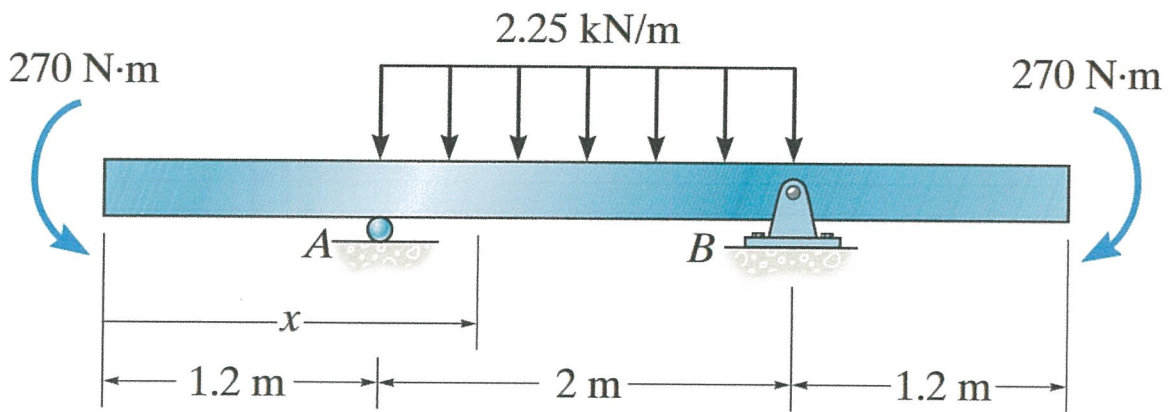

Figure Q2(c)
- (a) Explain **TWO (2)** assumptions made for composite beam analysis. (4 marks)
- (c) Draw the shear and moment diagrams for the beam as shown in **Figure Q2(c)**. (11 marks)